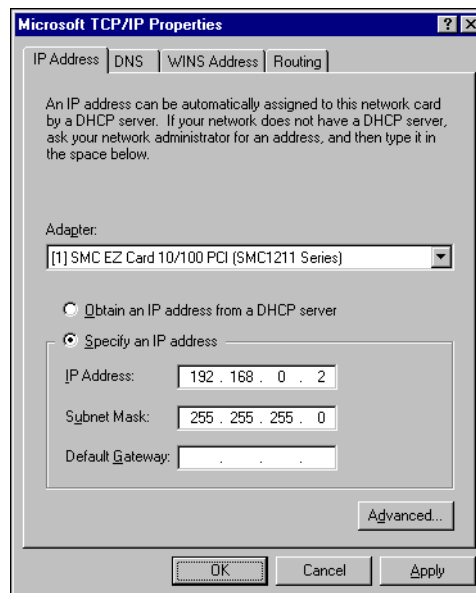

Figure B-3: Microsoft TCP/IP Properties Dialog
- 9 Highlight TCP/IP Protocol in the Protocols tab and click **Properties** to open the Microsoft TCP/IP Properties dialog (Figure B-3):